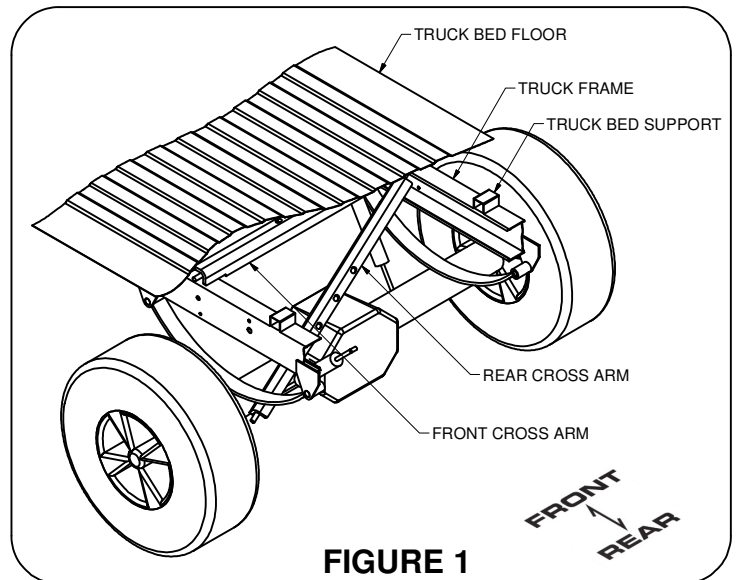
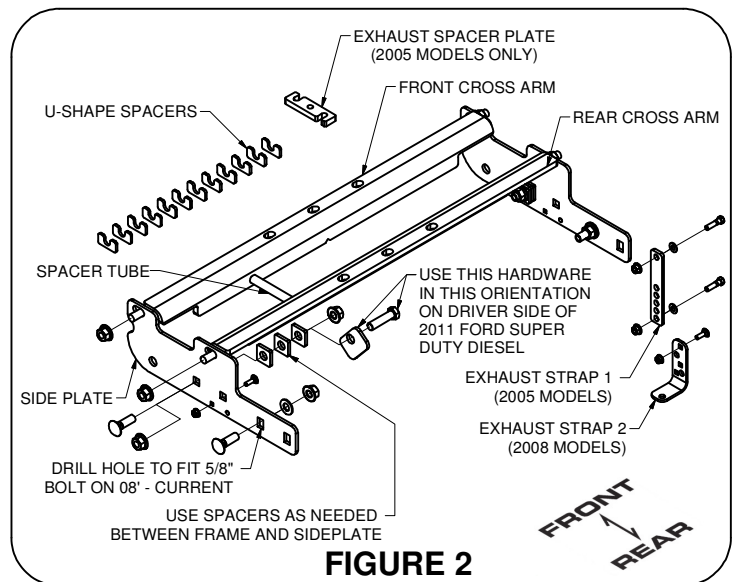

FIGURE 1
FIGURE 2
3. On 2005 models loosen the (2) bolts on the exhaust hanger mount in front of the rear axle between the exhaust hanger and the truck bed. Lower the exhaust approximately 1/2", insert the 1/2" spacer plate provided and retighten bolts.
5. Install cross arms by sliding them into the gap between the truck bed and frame on passenger side. Swing other end between the truck bed and frame gap on driver side as shown in **Figure 1**. **(Note: Make sure cross arms placed in the correct orientation, as shown in Figure 2.)**
6. Hang the side plates from the 5/8" studs extending from the cross arms. Secure each plate with (2) 5/8" flange nuts provided. Finger tight only.
7. Align side plates with the 3/4" slot in the frame. Place the 5/8" carriage bolts through side plate, 1/4" spacers (use spacers as needed to fill the gap between the frame and sideplate), and frame as shown in **Figure 2**. Use a 5/8" flange nut to secure, finger tight only. At this time, place another 5/8" carriage bolt through the other hole in the frame and side plate or drill the hole to fit the 08' - current model trucks. Secure with a 5/8" flange nut and washer as shown. **(Note: Hardware orientation is different on driver side of 2011 Ford Super Duty equipped with a diesel engine. See Figure 2.)**